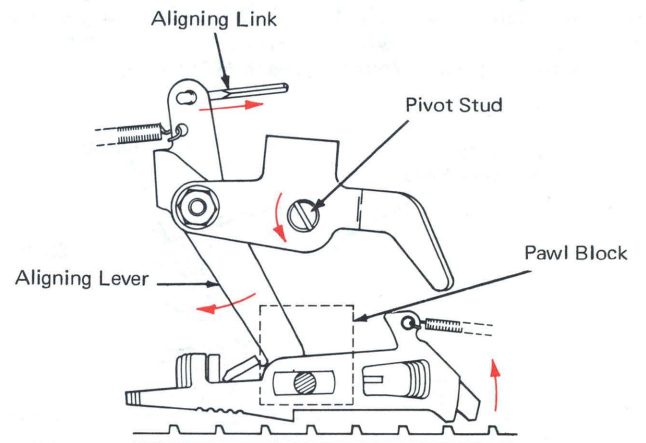

Figure 7 - Pawl Aligning Lever (Top View Level 1)
The pawl aligning lever is mounted to the left side of the intermediate pawl release lever by a shaft extending through arms on each part. An extension of the aligning lever extends up behind the escapement pawls and to the right of their aligning lugs (Figure 7).
1. To release the pawls during tab, carriage return, and carriage release. This involves a straight forward movement of the aligning lever and bail. During pawl release the aligning lever is prevented from rotating by the pawl block. The bail is spring loaded against the left side of the pawl block and slides forward with the pawl block. Motion from the intermediate pawl release lever pushes the aligning lever toward the front of the typewriter, causing the bail to move against the back of the pawls and pivot their tips out of the escapement rack (Figure 7).